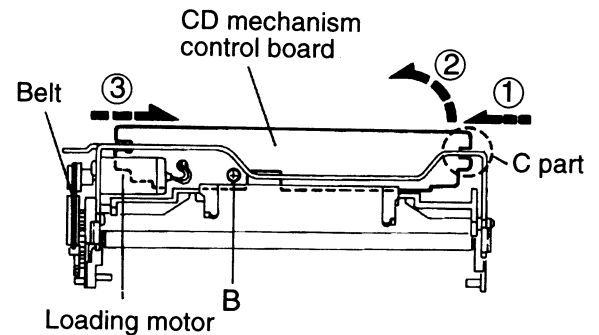

Fig. 10
4. Remove the one screw B retaining the CD mechanism control P.C.board (See Fig. 10).
5. After disengaging the engagement between the notch section (c) and frame, remove the CD mechanism Control P.C. board successively from (1) through to (3) in the arrow direction as shown in Fig. 10.